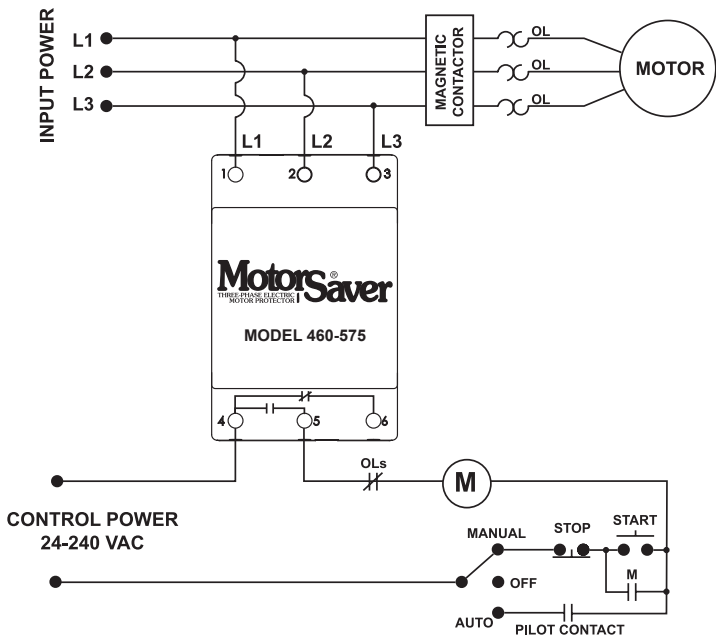

FIGURE 1: CONTROL WIRING DIAGRAM
2. Connect L1, L2 and L3 on the MotorSaver's terminal strip to the LINE SIDE of the motor starter. (See Figure 1).
3. Connect the output relay to the circuitry to be controlled. For motor control, connect the normally open contact in series with the magnetic coil of the motor starter as shown in Figure 1. For alarm operation, connect the normally closed contact in series with the control circuit as shown in Figure 2.